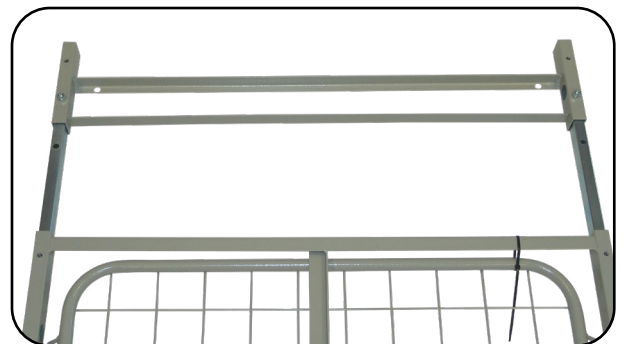

Fig. 6.6.06 – Bed extension positioned in foot part bed surface frame
11. Push the bed extension (bed extension incl. extension tubes) into the bed surface frame of the foot support (Fig. 6.6.06) until the holes line up.